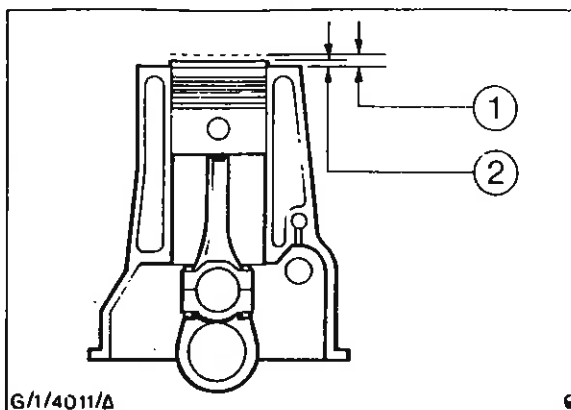

Fig. 63 - Piston Protrusion
55. Measure and record the protrusion of the piston above the face of the block in at least three places and note the maximum and minimum protrusion (Fig. 63). Calculate the average of the three readings. If the figure is within the specified limits for piston protrusion (bump height) the existing connecting rod length is satisfactory. If, however, the piston protrusion is outside the limits with the grade of rod fitted, it will be necessary to remove the piston and rod assembly and fit a longer or shorter grade of rod as required. Refer to specifications, for rod grades.